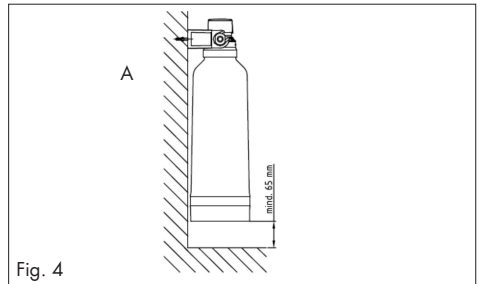

Fig. 4
2. The filter system can be installed and operated in vertical position (see Fig. 4).